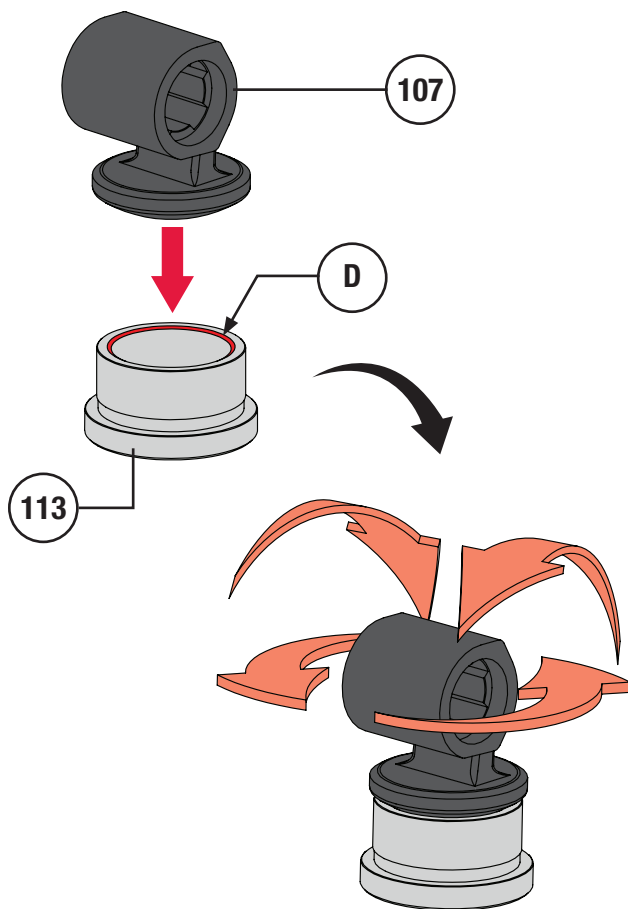

Figure 40 Plug-to-Seat Ring Lapping Action
- 2 Carefully apply a small amount of fine grit Clover® compound (Key D) to the seating surface of the seat ring (Key 113) as shown in Figure 40.